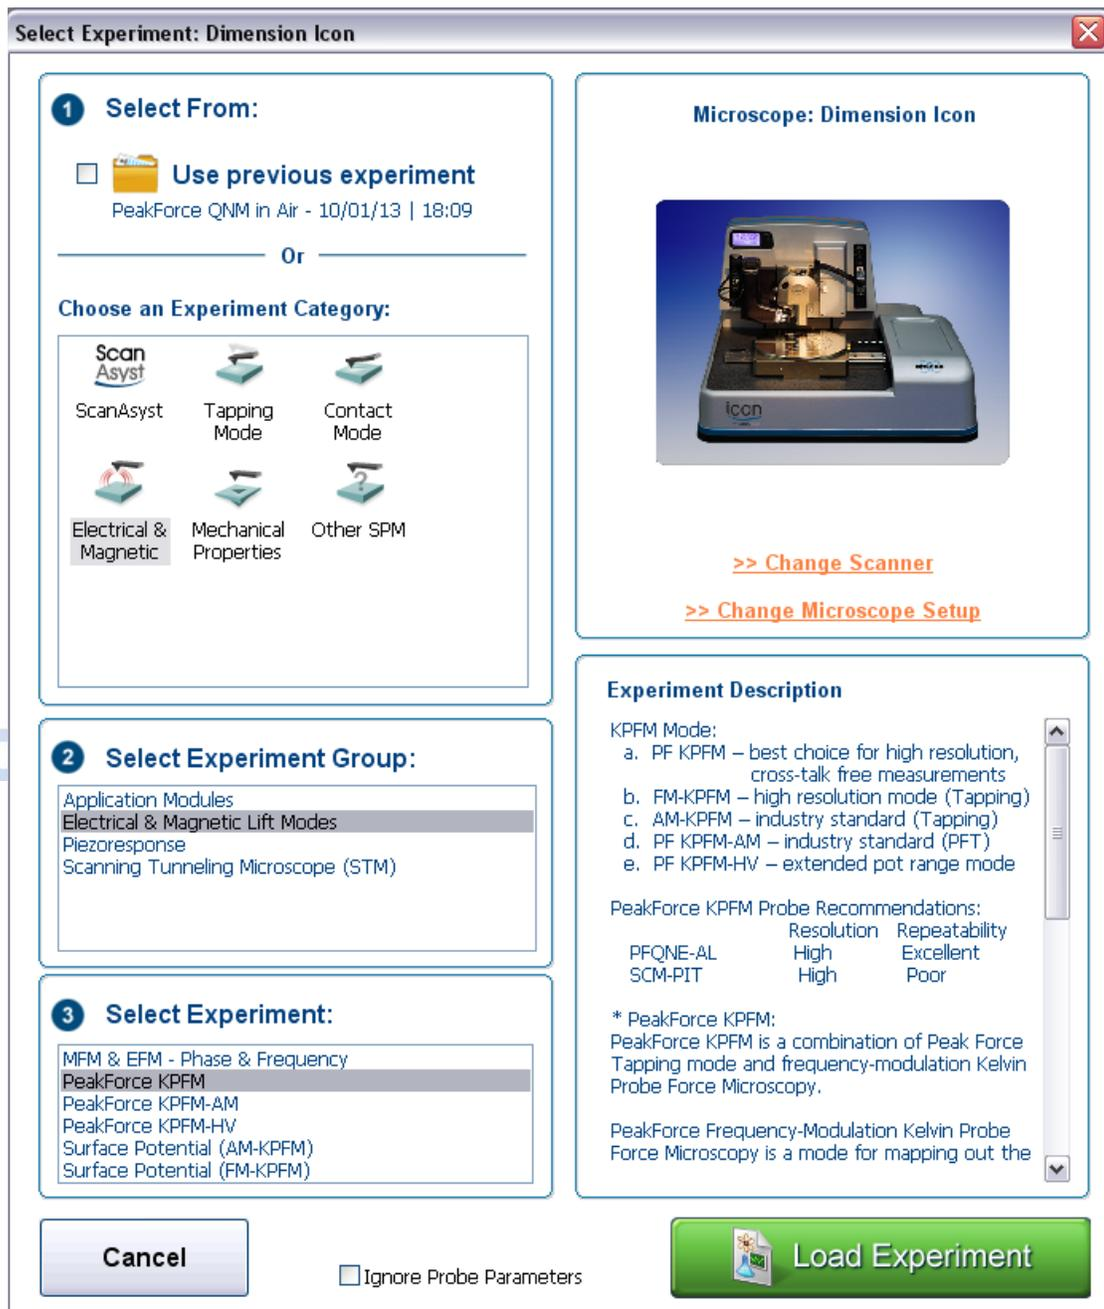

Figure 1. Select Experiment screen for choosing a KPFM mode on the Dimension Icon system with suggested default mode (PF FM-KPFM) selected.
For the best combination of speed, ease of use, spatial resolution, repeatability of potential measurements, availability of additional data channels, and freedom from topographical artifacts, PF FM-KPFM is suggested as the default mode of choice. The best probe in terms of spatial resolution and reproducible surface potential measurements is Bruker's PFQNE-AL. In particular, the lack of a metal coating on the PFQNE-AL probe tip itself leads to a smaller tip radius and more consistent potential measurements since metal coatings can wear down and flake off with use. However, other modes (as described above) and probe types (e.g., SCM-PIT or MESP) can be used. Thus users should first learn about the various available modes and probes, then talk with the SSL staff and try several out to determine what best meets their project needs. The Select Experiment menu in NanoScope provides a good summary of the available modes in the Experiment Description section (see Figure 1).
- 3) Select the appropriate KPFM Experiment (based on the KPFM mode best suited to your sample and project needs), then select “Load Experiment” (Figure 1).